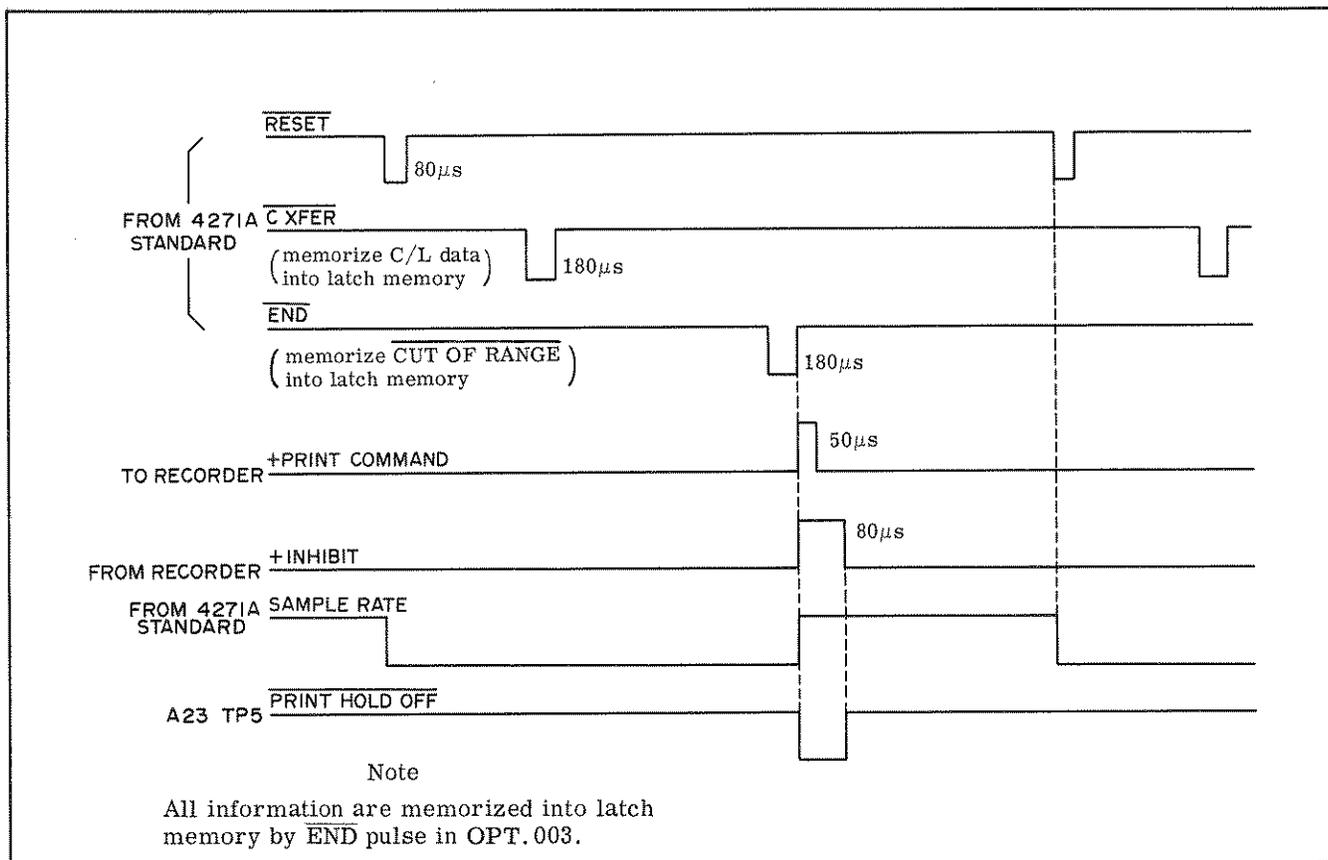

Figure 3-14. Timing Diagram (OPT. 002/003).
- f. Figure 3-14 is a timing diagram for option 002 and recorder (if necessary, also refer to Section VII paragraph 7-8).
d. The timing sequency for OPT 003 is the same as for OPT 002 except all data is stored in latch memory with END signal. See Figure 3-14.